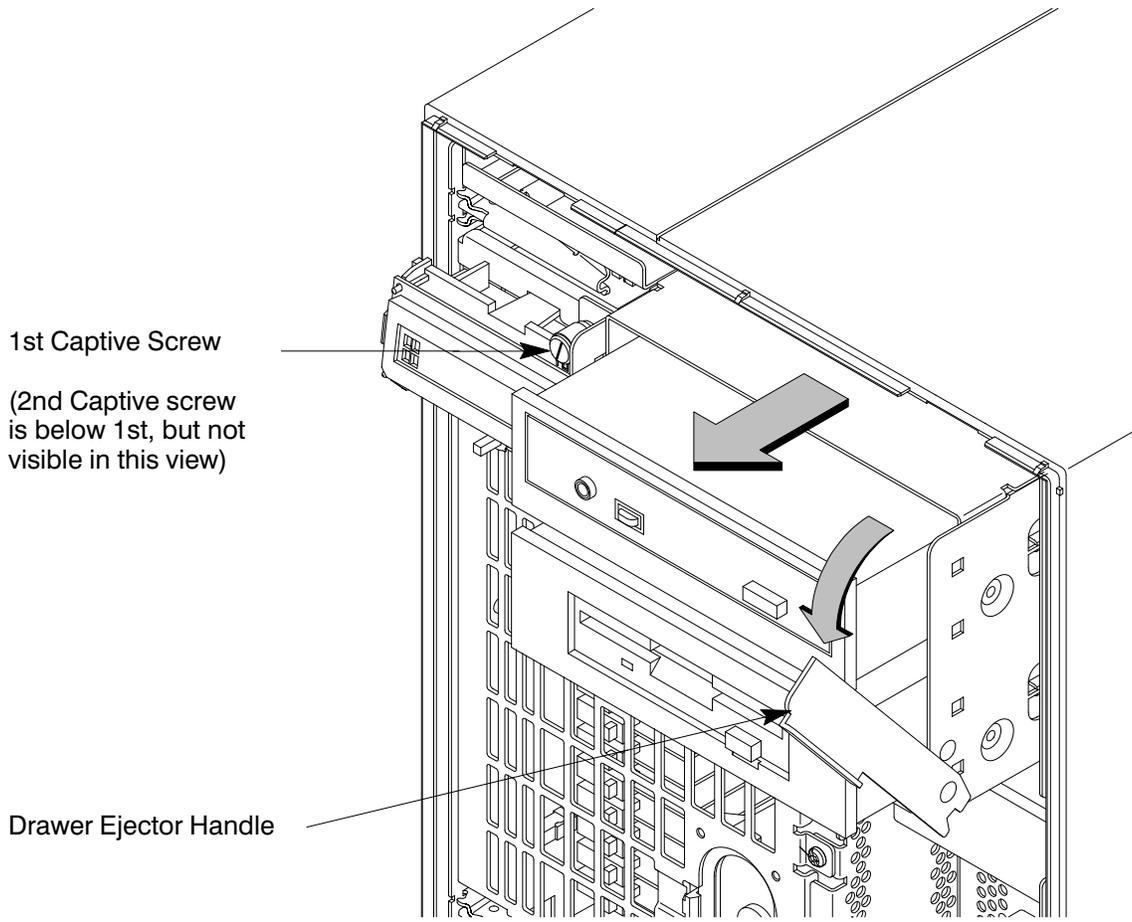

Figure B-18. Removing Storage Drawer from System Unit
- 2.** Unscrew the two captive screws on the left side of the Storage Assembly and pull down the drawer ejector handle on the right side of the Storage Assembly, as shown in Figure B-18.